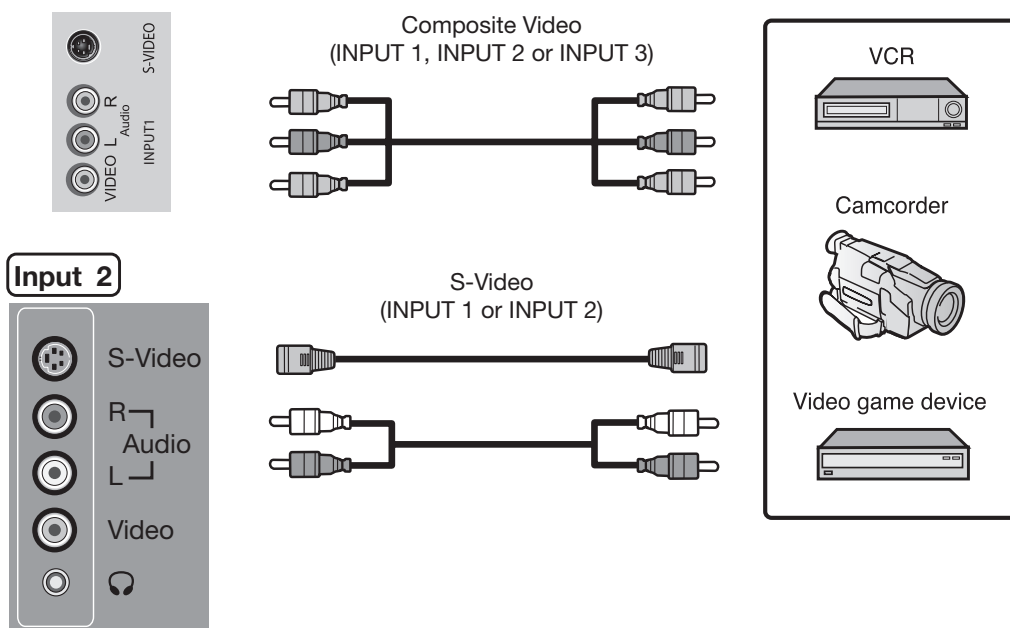

Figure 3-5. Composite and S-Video Connections
Composite/S-Video Connections: The Crystal Series LCD Display has two (2) S-Video and three (3) composite video inputs for connecting a VCR, camcorder, laser disc player or DVD player; see Figure 3-5.